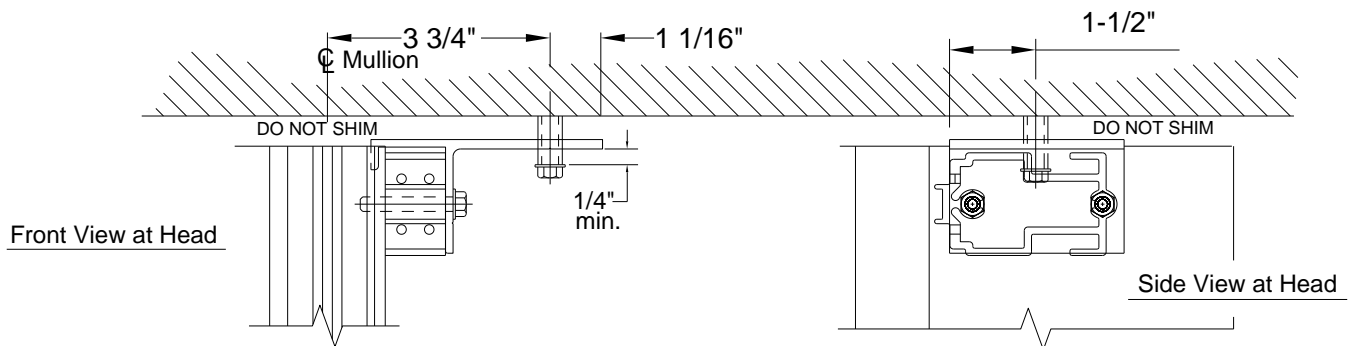
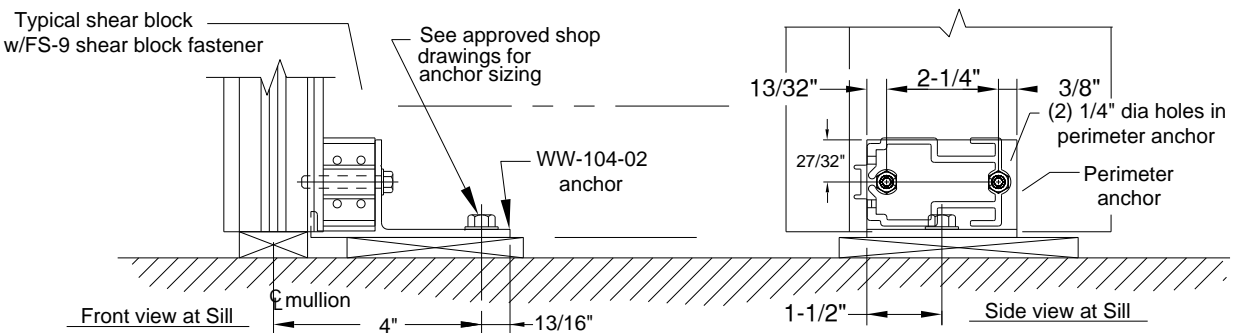

Figure 9: Single Span Head Anchorage
Figure 10: Single Span Sill Anchorage & Shear Block Orientation
- 7.1 Attach shear blocks to all vertical members using FS-9 fasteners. The shear block anchors are designed for use with standard shear blocks. See Figure 9 and Figure 10. For proper orientation and installation onto mullion.
- 7.3 Install verticals plumb and level. Place shims under vertical mullion at sill to evenly distribute dead load from wall. Install pipe sleeve anchor at head to allow for thermal movement of the vertical mullions. See Figure 9 and Figure 10.
- 8.1 Attach shear blocks to all vertical members using FS-9 fasteners. See *Figure 10* for proper orientation on mullion. For installations using the shear block anchors, attach to head and sill shear block.
NOTE: Depending on the end reactions, either the shear block anchor or "F" or "T" anchors can be used to anchor the wall. See Figure 10 for shear block anchor load capacity.
- 9.2 Attach shear blocks to all vertical members. See *Figure 10* for proper orientation on mullion.